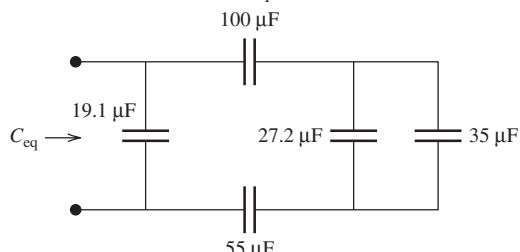

FIGURE P4.28 Circuit for Problem 4.28.
- 4.28 (A)*** For the capacitor network in Figure P4.28, what is the equivalent capacitance, C_{eq} ?